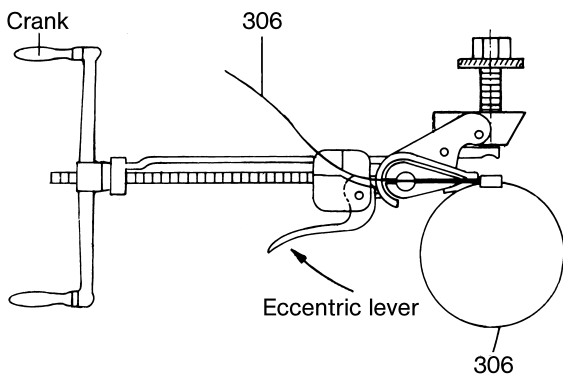

Figure 9: Clamping the clamping band by means of clamping tool Band-It and adapter J050.
- Introduce band end of the clamping band (306) to the clamping band buckle into the clamping tool with adapter.
- Hold clamp end with the eccentric lever of the clamping tool, and clamp clamping band (306) by turning the crank (Figure 9).